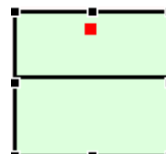

Figure 2-35 Hardware Resource Representation
3. Drag and drop the object in the Resource Editor. The object is available in the Editor. A sample of the object appears as shown in Figure 2-35.